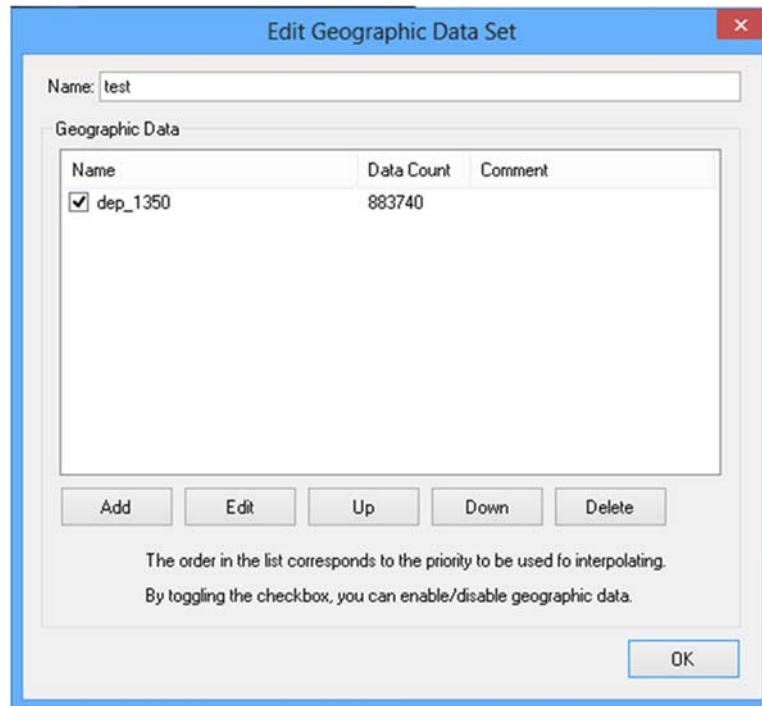

Figure 21 — Example dialog for editing topography data sets (figure shown previously)
The dialog shown in Figure 21 will open. Adjust the settings as necessary and click the OK button.
To add topography data, click the Add (A) button on the dialog shown in Figure 21. The dialog hown in Figure 19 will open. On this dialog, set conditions and click the OK button.
To edit topography data, select the topography data you want to edit from the list on the dialog shown in Figure 21 and click the Edit (E) button. The dialog shown in Figure 19 will open. On this dialog, set conditions and click the OK button.
To delete topography data, select the topography data you want to delete from the list on the dialog shown in Figure 21 and click the Delete button.